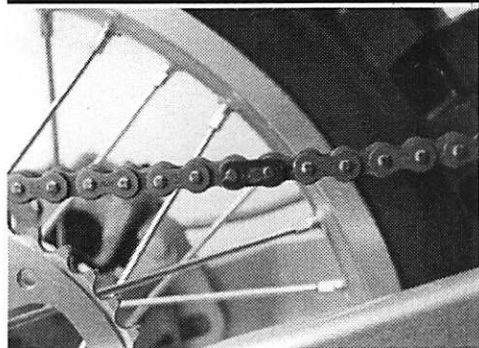

Figure 4.11
**Caution:** When replacing the drive chain, point the open end of the master link towards the rear of the motorcycle when viewing the chain on top of the swingarm. This will ensure that the masterlink will not be unfastened if it touches part of the motorcycle or some terrain. (Figure 4.11)